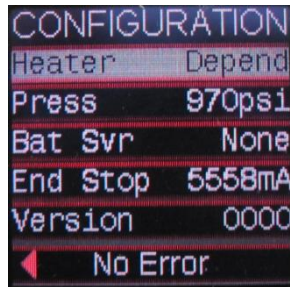

Figure 4
1. To enter the configuration menu, simply select "Configuration" from the Main Menu screen (Fig. 4).